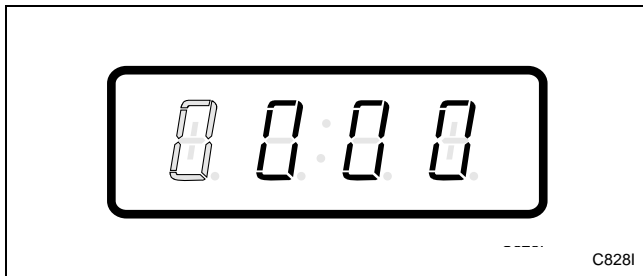

Figure 88
6. Press the START (enter) keypad to enter the fifth digit and display remaining four digits. The active digit will flash one second on and one second off. Refer to *Figure 88*.